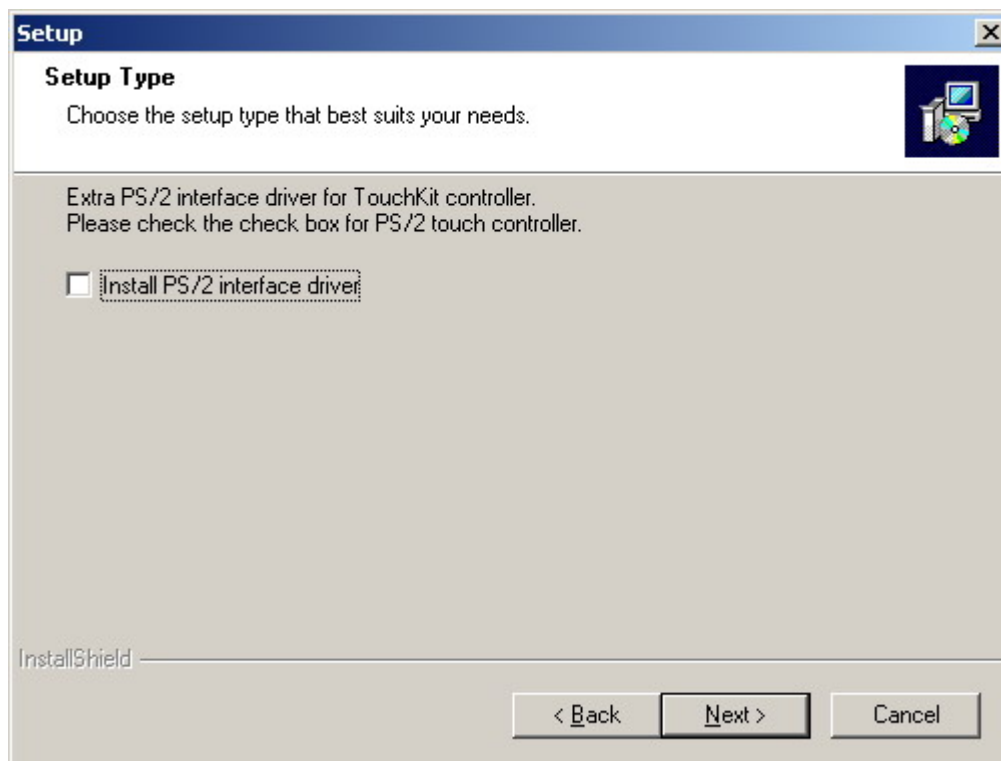

Figure D-4: Install PS/2 Interface Driver
Step 7: An **Install PS/2 interface driver** screen appears (**Figure D-4**). It is not necessary to install the PS/2 interface driver. To continue click **NEXT**.